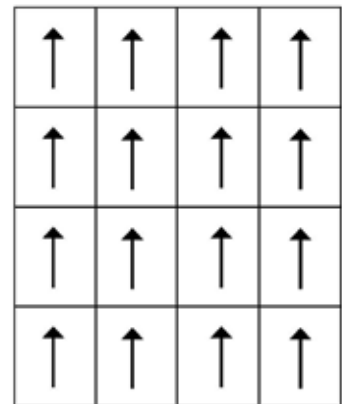

Figure 3
- This gives a more uniform result than laying with a continuous joint, which is not recommended in any case (see figure 3), except in the case of the Silence collection. Please note that tiles with a stripe pattern will not line up if laid in the same direction (as in Figure 3).